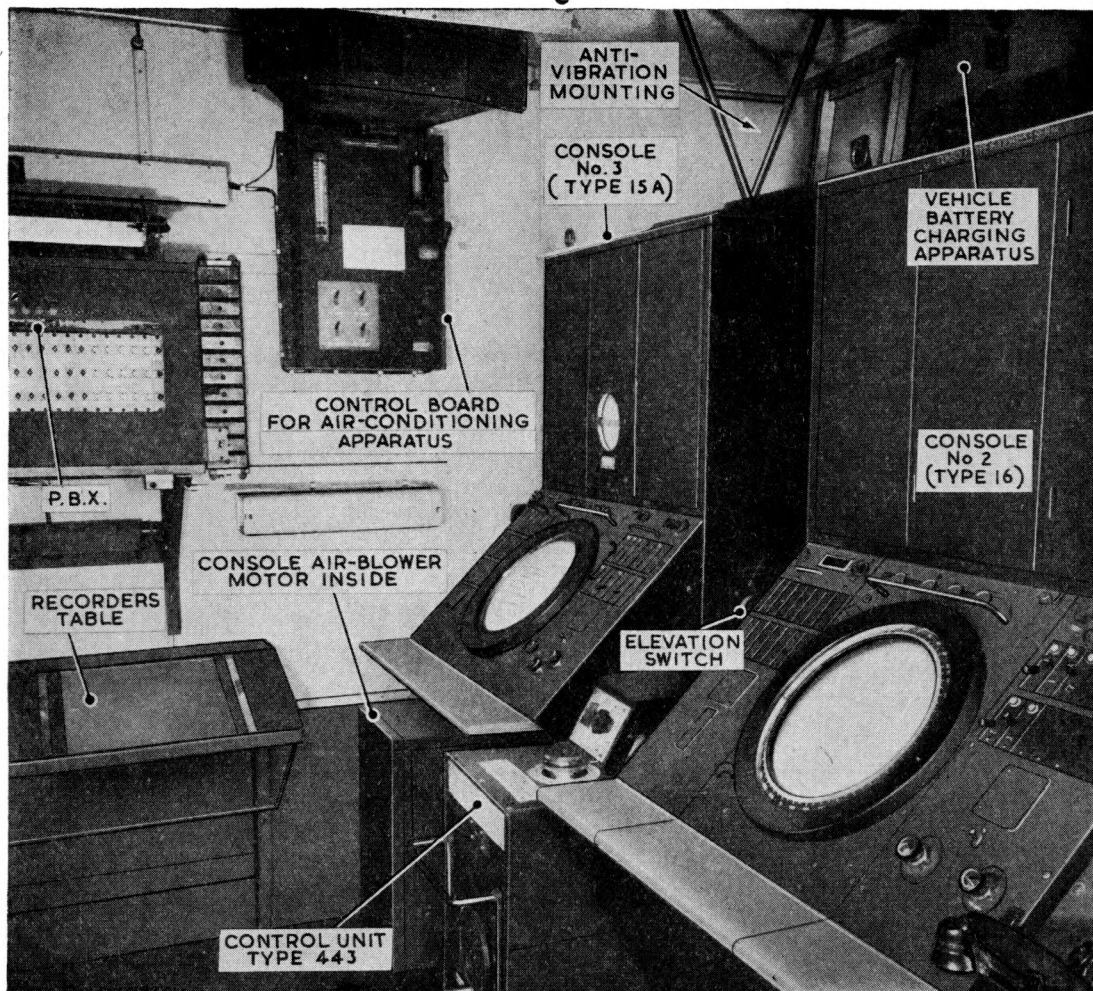

Fig. 38. R.V.467E : view towards front wall
- (1) 3 plotting tables.
- (2) GPO telephone equipment and associated battery charging apparatus.
- (3) Control units Type 442 and 443.
- (4) Vehicle battery charging apparatus for engine starting and emergency lighting.
- (5) Air conditioning equipment.
48. Fig. 38 and 39 show the layout of these units when the installation is complete. The vehicle body, or container, is thermally insulated and waterproofed to a height of two feet from the floor. Because of this no holes must be drilled in the floor. Two doors are provided; the main entry is at the front near-side of the container but there is also an escape door, with quick-release catch at the rear.
49. For ease of reference the consoles are numbered; when installed, console No. 3 is facing, and consoles No. 2 and 1 are to the right, when entering the main door. When in transit, consoles No. 1 and 2 are secured close to the centre of the floor and console No. 3 is secured against the off-side container wall in its normal operating position (fig. 38). When installing, the first task is to
- (1) Swing the anti-vibration mountings away and clip them to the roof (*fig. 38*).
- (2) Remove the two bolts securing the consoles to the supporting runners.
- (3) Push the console as far as possible towards the wall.
- (4) The holes in the framework of the console (from which the bolts were removed in (2)) should now line up with two holes in the fixed runners. Replace and tighten the bolts.
- (5) Unscrew the bolts in the section of the runners which is not in use, remove the runners, and store.
- (6) Check that the air duct is making good contact at the rear of the console.
- (7) Repeat (1) to (6) for the remaining console.